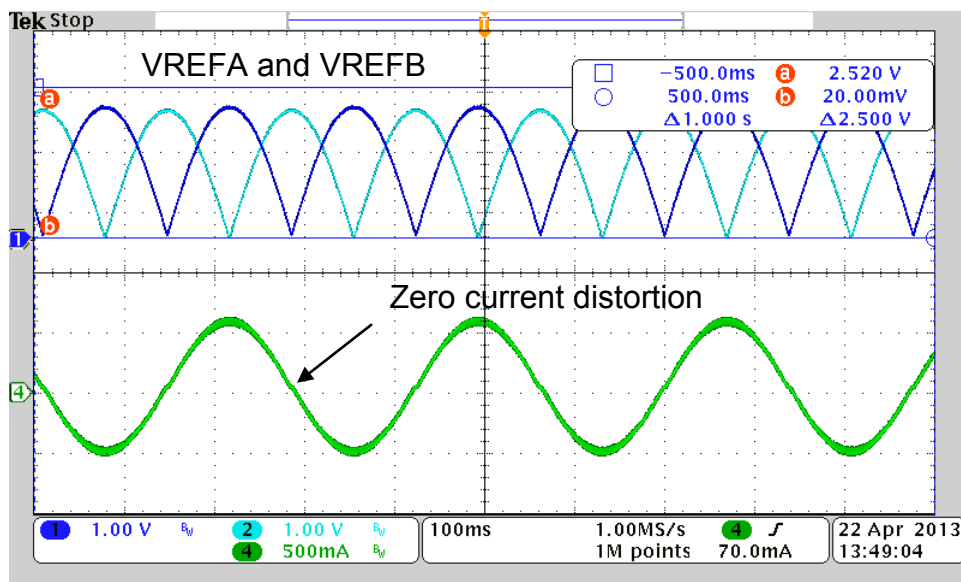
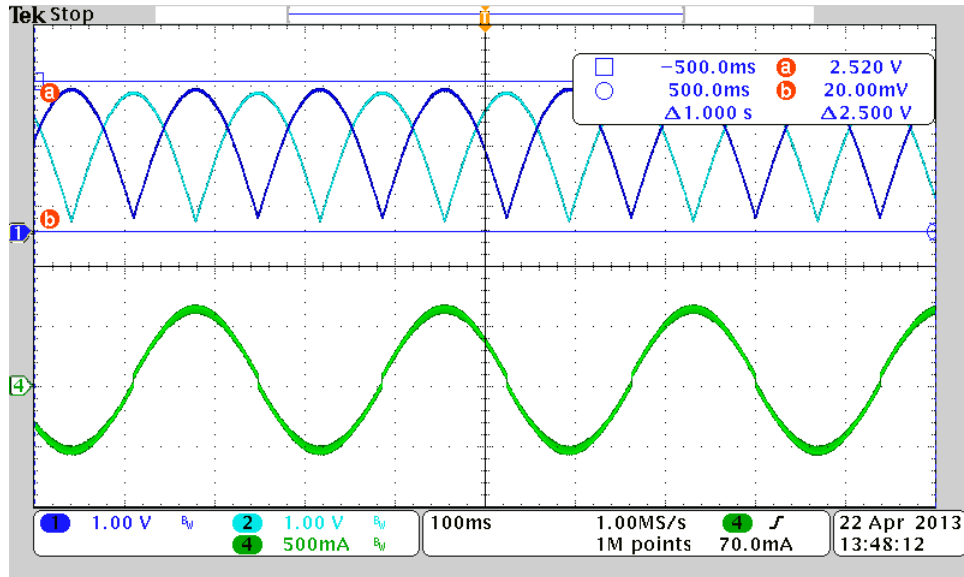
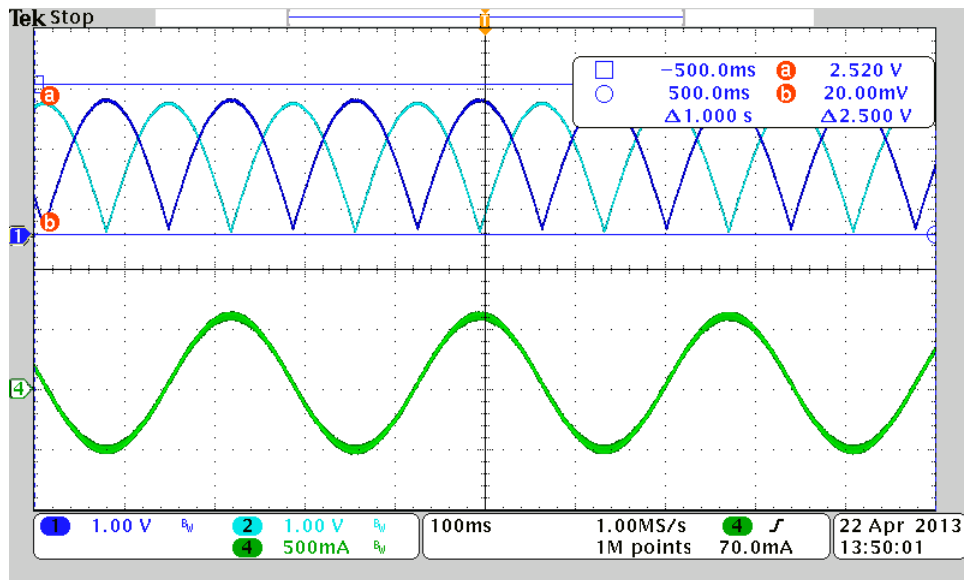

Figure 6. Current Waveform Before Compensation
Figure 7. Current Waveform with Overcompensation
Figure 8. Current Waveform with Proper Compensation
Step 2. Monitor the phase current when the motor is running at very low speed with highest micro stepping. Monitoring the phase current, if the initial value is not proper, search and repeat trying the offset value in the 20–200 mV range. Note that if the offset added is not enough, the pause while running still occurs (as shown in Figure 6). If the offset added exceeds needed, the motor will have jumper at zero current point (as shown in Figure 7).
Figures 6–8 show the results before and after the compensation. The upper curves stand for the voltages on VREFA and VREFB. The lower green curve shows one of the real phase currents. Figure 6 shows the current waveform with no or not-enough compensation and Figure 7 shows the result with overcompensation. If overcompensation is applied, the current distortion pattern is shown as Figure 7, the motor will jump a little at the overcompensation condition. Figure 8 shows the proper compensation, the current wave is continuous with no distortion at zero point. The motor runs smoothly.